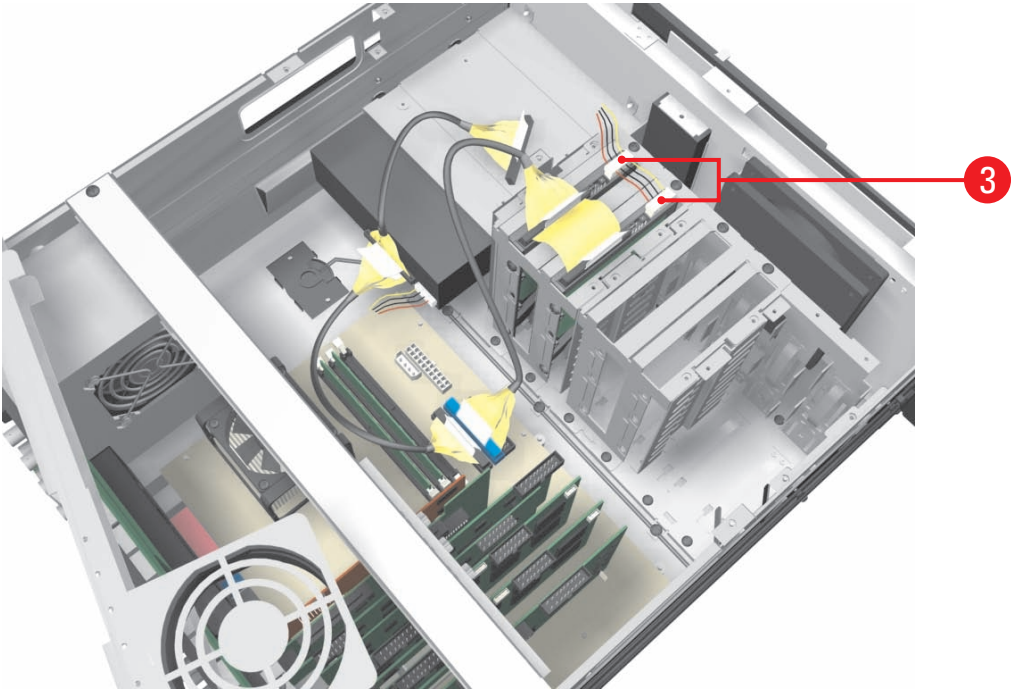

Figure 18. Installing Hard Drive Power Connectors
3. Connect the hard drive power connectors according to the diagram in Figure 18.